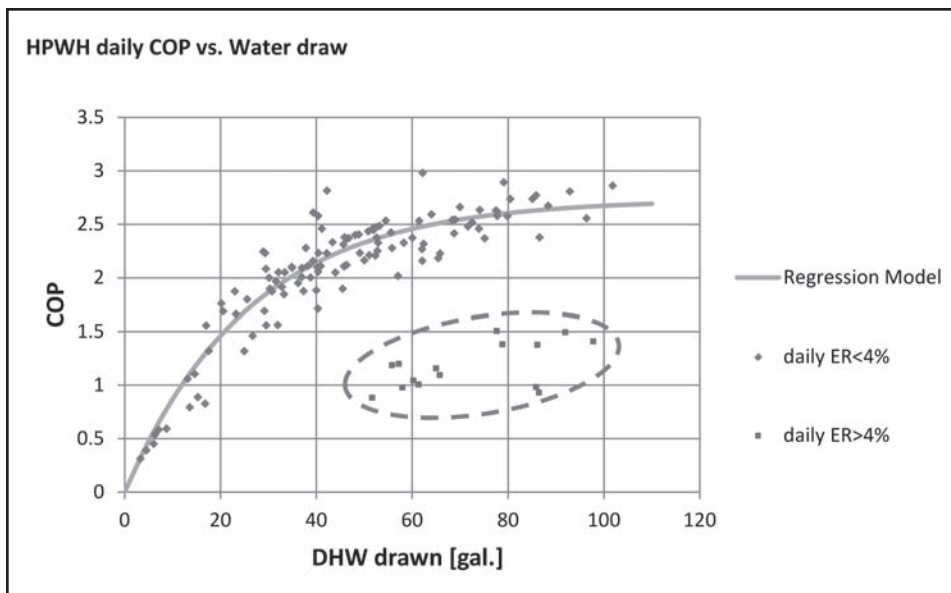

Figure 2. HPWH daily COP vs. Water draw. Data and figure courtesy Jim Williamson at Steven Winter Associates, Inc.
Jim Williamson, Mechanical Engineer at Steven Winter Associates, Inc., elaborated on the data results. “There are three figures that are most useful for demonstrating the effect that water draw profile has on HPWH performance; the first is HPWH daily COP vs. Water draw (Figure 2).” Three distinct scenarios occurred via data:
- • • • • • • • • • Too much water is drawn in a short period of time and the HPWH must use electric elements to support the load. These points are shown in Figure 2. This scenario results in a low COP because supplying heat through electric resistance is much less efficient than supplying it with the vapor compression cycle (heat pump).